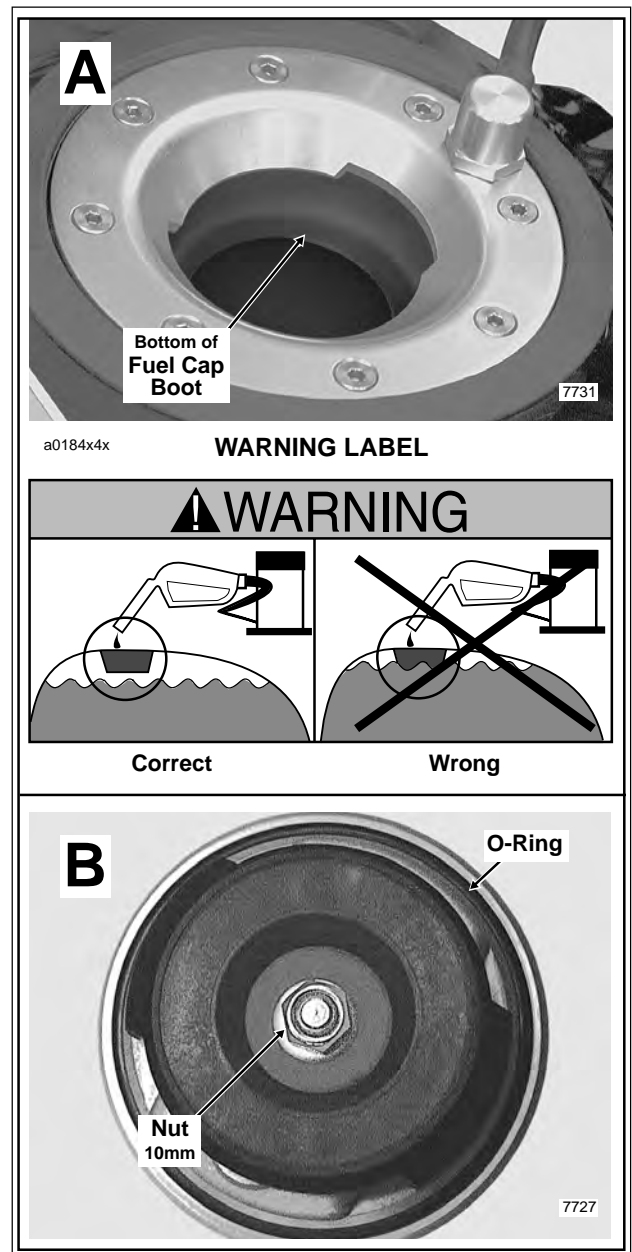

Figure 4-4. Remove Tank Cover/Fuel Tank
4. Observe the warning label at the top of the fuel tank. When refueling, keep fuel level at least one inch below bottom of fuel cap boot. See A of Figure 4-4.
1. Inspect O-ring at underside of fuel filler cap for cuts, tears or signs of deterioration. Replace if necessary. See B of Figure 4-4.
Locking tab should snap down tightly, but not so tight that it becomes too difficult to remove. To increase or decrease the tension required to operate the locking tab, turn the fuel filler cap over and either loosen or tighten the 10mm nut. See B of Figure 4-4.